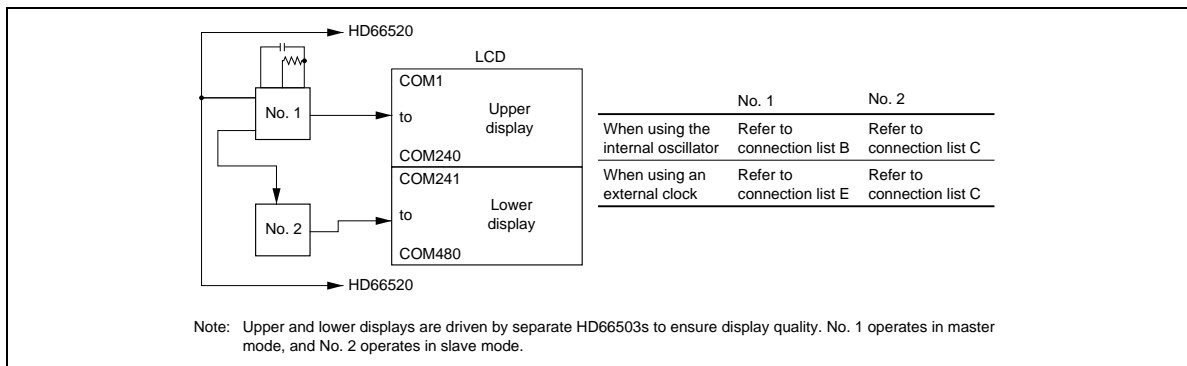

Figure 10 When Using Two HD66503s
- When two HD66503s are used to configure a large display (Figure 10)